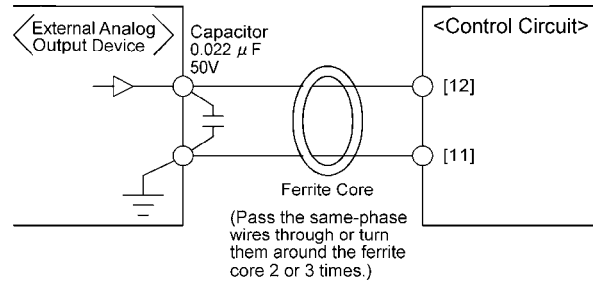

Figure 2.3 Example of Electric Noise Reduction
- When the inverter is connected to an external device outputting the analog signal, the external device may malfunction due to electric noise generated by the inverter. If this happens, according to the circumstances, connect a ferrite core (a toroidal core or equivalent) to the device outputting the analog signal or connect a capacitor having the good cut-off characteristics for high frequency between control signal wires as shown in Figure 2.3.